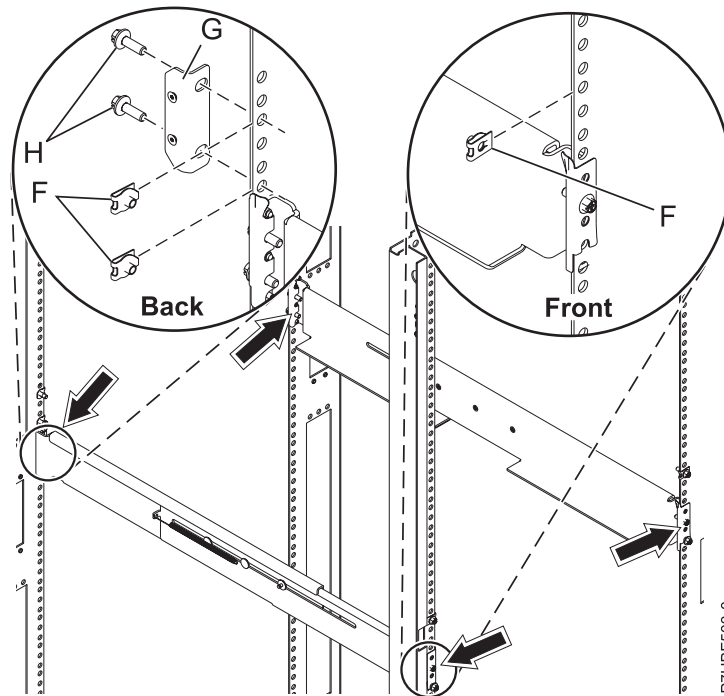

Figure 65. Installing the retention bracket
10. Use one M5 screw (E), below the top rail pin (D), to secure the right rail to the front of the rack.
11. Locate the marks previously made on the front Electronic Industries Alliance (EIA) strips of the rack cabinet. Each side contains one mark. Insert one nut clip (F) at the mark on the right side of the rack as shown in Figure 65 on page 62.
12. Insert a nut clip (F) at the mark on the left side of the rack as shown in Figure 65 on page 62.
13. From the back of the rack cabinet, locate the marks previously made on the rear Electronic Industries Alliance (EIA) strips. Each side contains two marks. Insert a nut clip (F) at each of the marks on the right side of the rack as shown in Figure 65 on page 62.
14. Use two M5 screws (H) to attach the retention bracket (G) to the rack on the right side.
15. Insert a nut clip (F) at each of the marks on the left side of the rack as shown in Figure 65.
16. Use two M5 screws (H) to attach the retention bracket (G) to the rack on the left side.